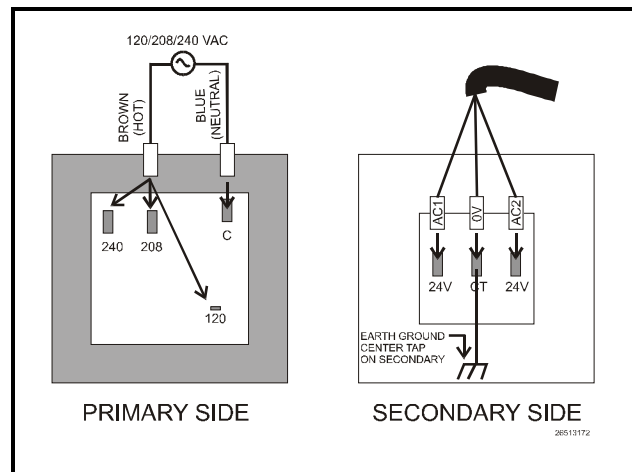

Figure 2-4 - 640-0056 and 640-0080 Transformer Wiring
The MultiFlex 16 requires connection to a transformer with a center tap such as the 56VA (640-0056) and 80VA (640-0080) transformers listed in **Table 2-1**. The 56VA and 80VA transformers have quick-connects on the primary and secondary sides for connection to line voltage and the MultiFlex 16 board. **Figure 2-4** shows how to make those connections. Note the center tap connection on the secondary side (CT) must be wired to the 0V terminal on the MultiFlex 16.